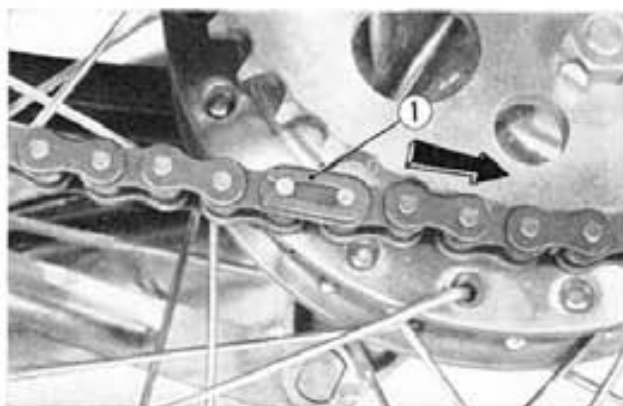

Fig. 19-20 ① Retaining clip
- (1) Check and adjust slack of the drive chain according to the following procedure.
- (2) Servicing grease to the drive chain is done according to the following steps.
- e. Correctly route drive chain onto the sprockets using the rear sprocket to position the chain ends while installing the master link, link side plate and retaining clip. Note that the closed end of the retaining clip must face the direction of forward wheel rotation. (Fig. 19-20)
- (3) Check the drive and driven sprockets for wear in the teeth and replace the worn sprocket with a new one when it is badly worn.